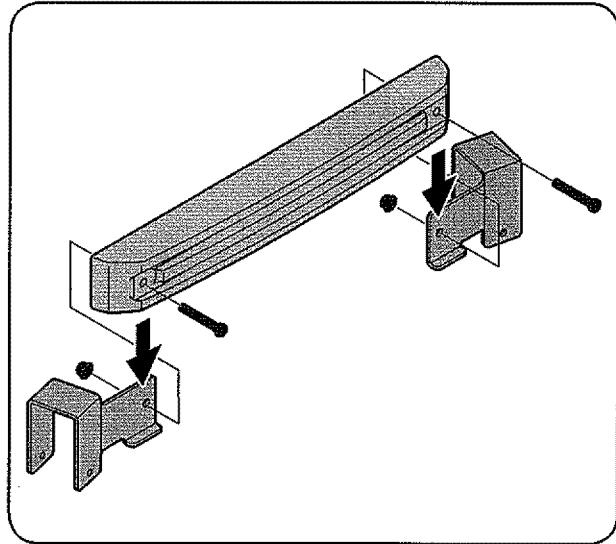

Figure 4-26
1. Attach the left mounting bracket and the right mounting bracket to the weight bar using two 2 1/2-inch screws (710-0859), and 3/4" flange nuts (712-04065) from hardware pack 689-00325. See Figure 4-26.